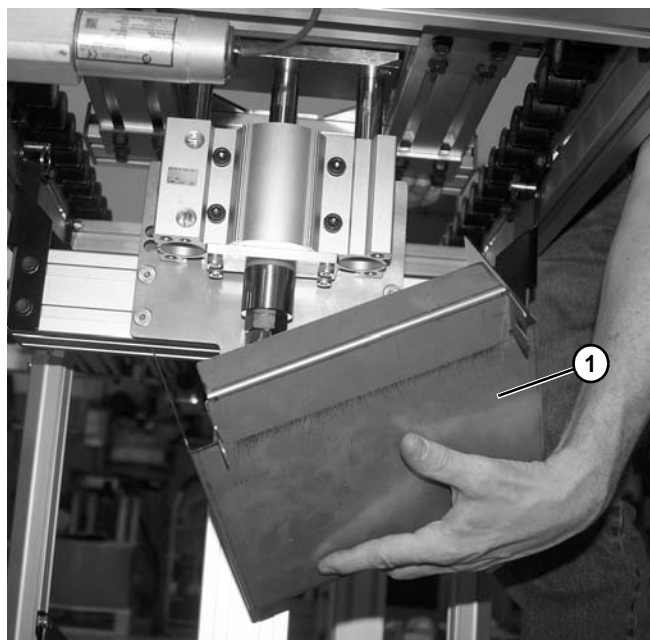

Figure 23
2. Lower cylinder guard (**Figure 23, item 1**) from around cylinder assembly.